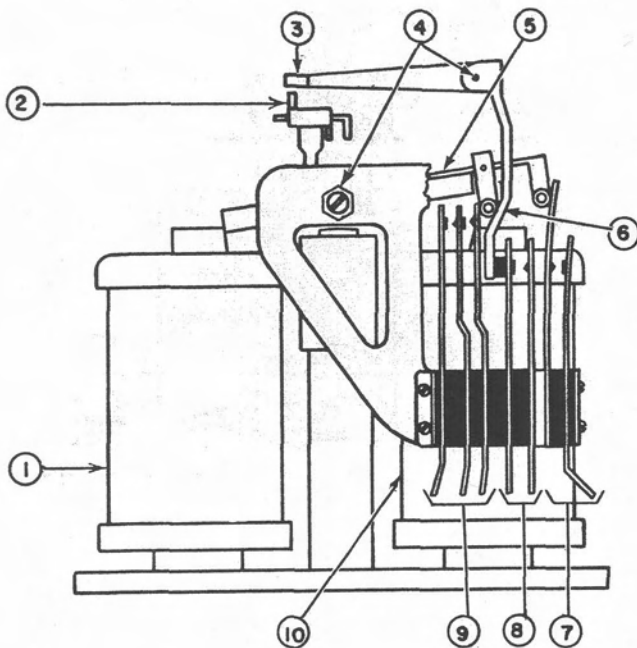
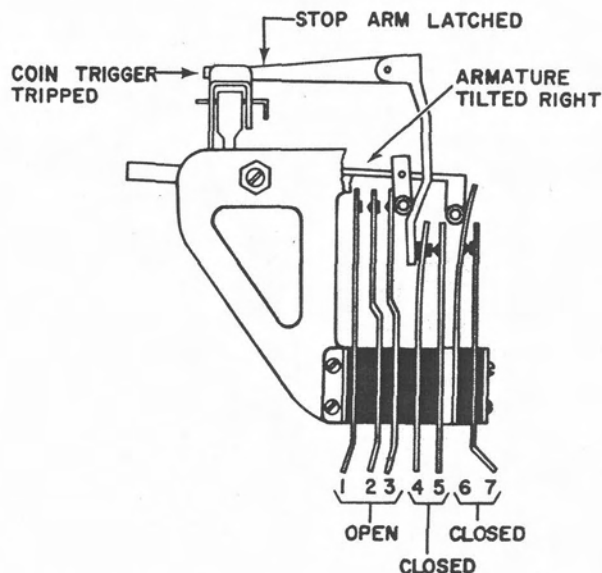
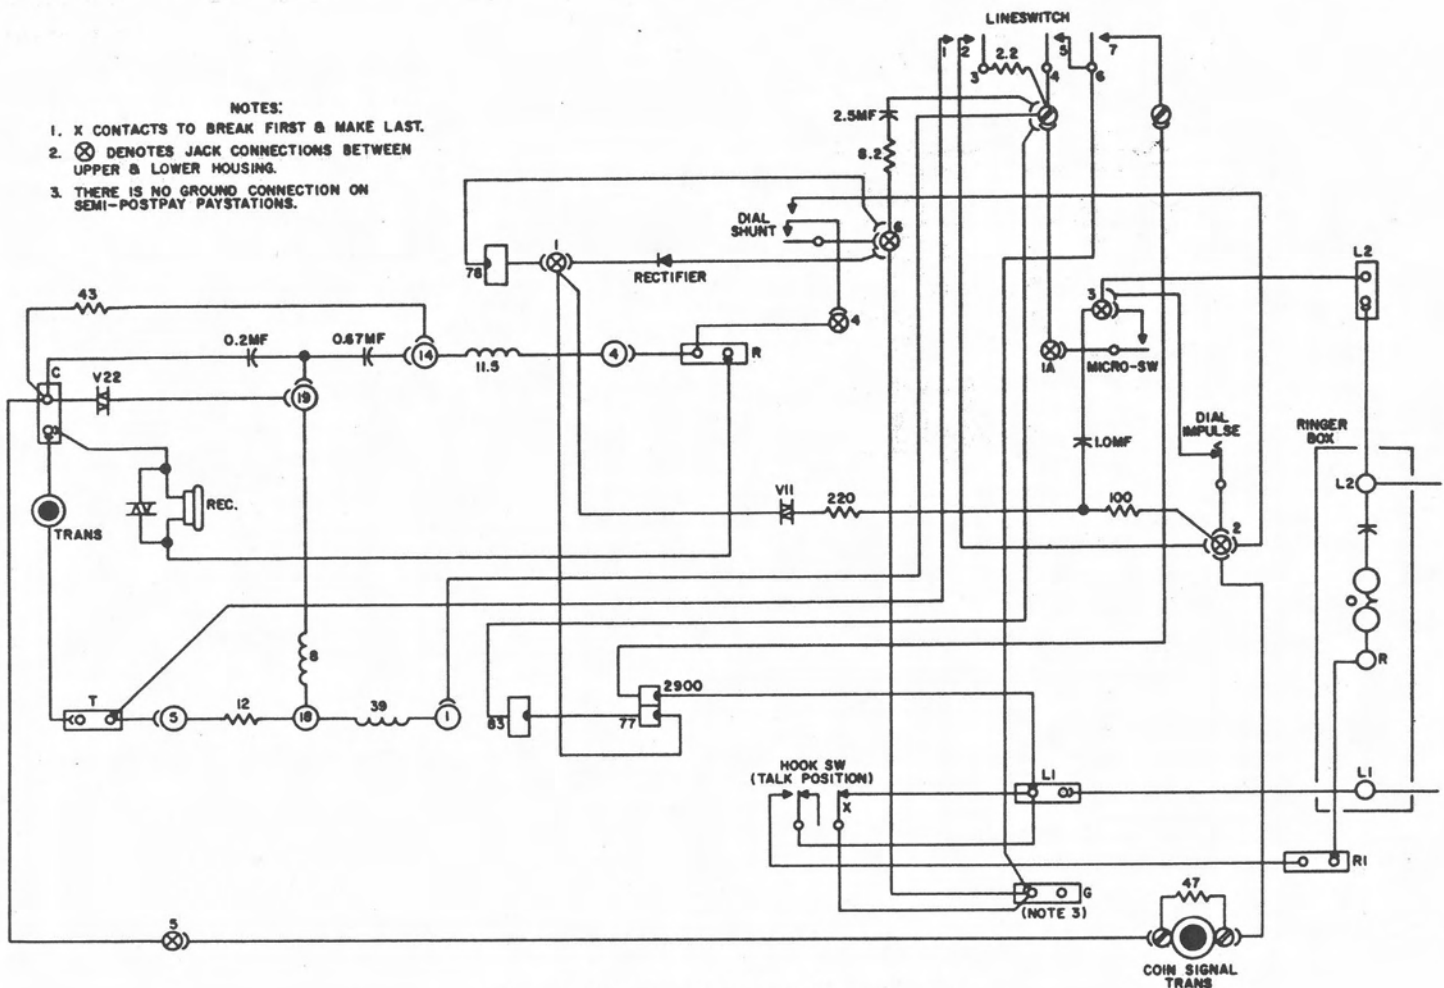
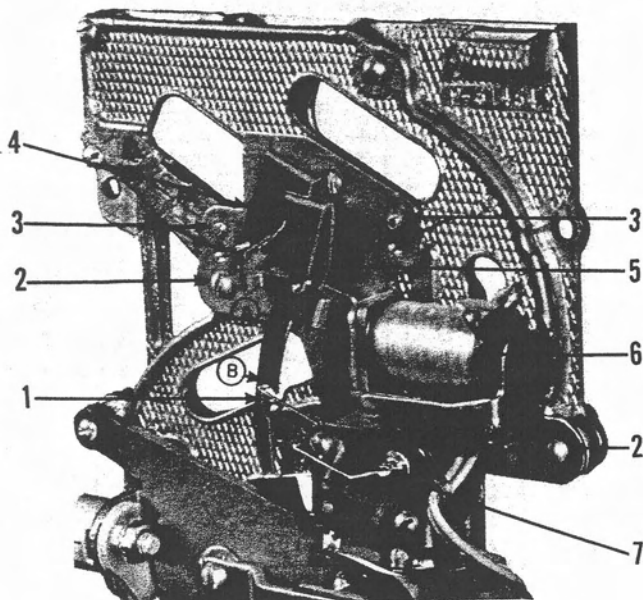

Figure 9. Coin relay - paystation idle.
Figure 11. Coin relay - paystation during conversation, coins deposited.
Figure 12. Type LPB 86-55 schematic.
Figure 13. Microswitch assembly.
(a) Figure 9 shows the coin relay in its "normal" condition, during dialing, waiting for called party to answer, and throughout toll calls. Note that the armature is tilted to the left, coin trigger is normal, and all lineswitch contacts are open. Under these conditions line polarity is normal (-48 volts dc applied to the -line). Current in the paystation circuit (figure 12) flows from L2, dial impulse springs, coin signal transmitter, regular transmitter and receiver, induction coil, 83- and 77-ohm coin relay windings 78-ohm magnet, to hookswitch "X" contacts and L1. The 78-ohm magnet is part of the "dime-only" mechanism in the -10 series and the nickel-counter in the -55 series paystations. See paragraphs 3.6 and 3.7.
and 83-ohm winding, shunting contacts 1-2-3, dial impulse springs to L2 (figure 12). Enough current flows through the 39-ohm primary winding of the induction coil to allow the caller to hear the called party answer. The rectifier which formerly directed current to the 78-ohm magnet now shunts it, and the magnet releases. When the armature tilts right, the stop-arm stud, in striking the trigger stop surface, arrests the swing of the cam portion.
(c) Caller must deposit proper coins to converse. As coins drop through the coin hopper to the collection box, they trip the coin trigger. The stop-arm stud drops down and latches, throwing the switch lever cam portion abruptly to the right. This releases the left roller-buffer, opening contacts 1-2-3, to remove the shunt from the receiver and the short-circuit from the transmitter. The switch lever buffer engages shorting spring #4, closing contacts 4-5 (figure 11). This shorts the coin relay out of the talking circuit. Talking circuit (figure 12) is through L1, hookswitch "X" contacts, coin relay shorting contacts 4-5, induction coil, regular transmitter and receiver, coin signal transmitter, dial impulse springs to L2. The coin relay remains thus until the end of the call.
Paystations such as the LPB 86-55 are equipped with a nickel-counter to permit deposit of one dime or two nickels for a ten cent local call. This mechanism (figure 13) consists of a 78-ohm magnet relay with a special armature, a micro-switch whose wire operating arm extends through the nickel channel of the coin chute, and a "pendulum" for latching the
3.8 The 78-ohm relay is normally operated - as explained in paragraph 3.6 - holding the pendulum slightly to the left of its position in figure 13 by means of its special armature. During this time the micro-switch arm tip rests against the coin chute ("A", figure 13)
When the called party answers, battery to the paystation reverses, de-energizing the 78-ohm relay and blocking transmission as explained in section 3.5b. The relay restores, releasing the pendulum to swing to a nearly vertical position. The caller deposits the first nickel, which falls through the nickel channel, striking the micro-switch operating arm with sufficient force to carry it down the edge of the pendulum past the notch ("B", figure 13). This action closes the micro-switch contacts and short-circuits the transmitter and receiver (figure 12). As the nickel passes on down the chute, restoring force in the spring-restored micro-switch arm carries it up the pendulum edge to latch ("B" figure 13). Although the first nickel trips the coin trigger, releasing the lineswitch shunting springs (section 3.5c), the parties are still unable to converse.
bottom edge of the pendulum notch. This throws the pendulum abruptly to the left, allowing the operating arm to restore to its original position ("A", figure 13), opening the micro-switch contacts. This removes the short-circuit to the transmitter and receiver so that the parties may converse.
The micro-switch operating arm should operate freely and without bind, and rest against the pendulum and coin chute (or mounting plate) at normal ("A", figure 13). When fully operated it should touch the bottom of the nickel channel.